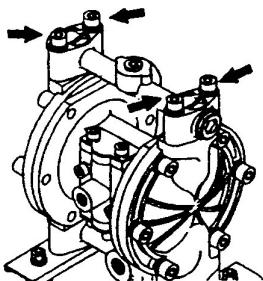

Fig.4.1
See [8. Exploded View] on and after p. 10. (Fig. 4.1, 4.2, 4.3 and 4.4 show the BA□.)
- Remove the 4 retainer bolts from the “out” manifold, and remove the “out” manifold. [Fig. 4.1.]